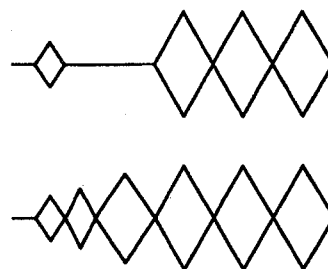

Fig. 2-9
- ④ Fig. 2-9 shows the RF waveform in which the indication will result in a bar indication in ③ mode (the ABS time CANNOT be read due to a missing or distorted waveform).